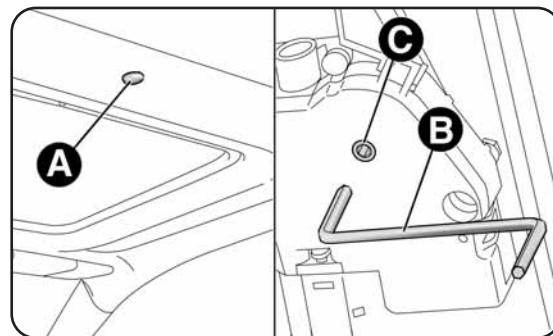

fig. 65
- remove cap A-fig. 65 set between the two sun curtains;